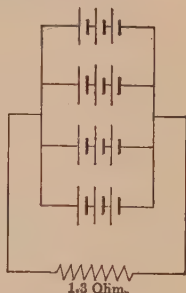

FIG. 181.
(4) Four parallel rows of 3 cells in series: Fig. 181.